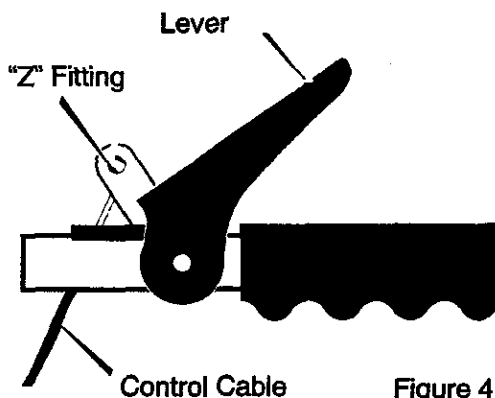

Figure 4
**NOTE:** If the cables have become disconnected from the drive levers, reinstall the cables as shown in Figure 4.